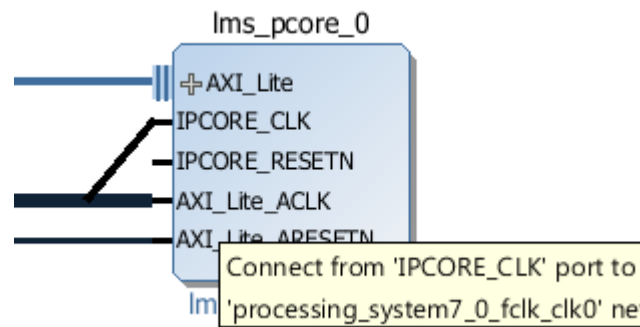

Figure 5.6: Manually connecting the LMS IP CLK
- (s) Hover the mouse pointer over the **IPCORE_CLK** interface on the **lms_pcore_0** block until the cursor changes to a pencil. Click and drag the mouse pointer until it is hovering over the wire that connects to the **AXI_Lite_ACLK** interface and the wire is highlighted, as shown in Figure 5.6, and release the mouse button to create the connection.